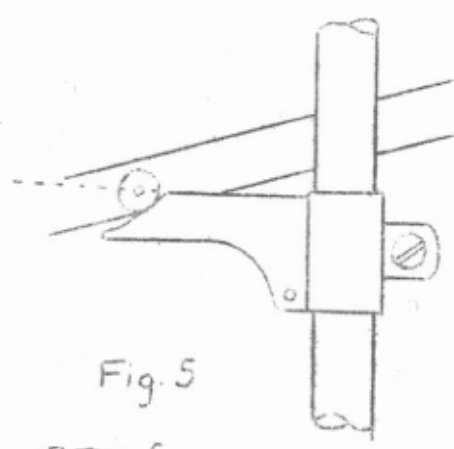

Fig. 5
- b. Release the gravity arm and lower gently onto the pallet. Check by eye that if top of pallet is continued to left, it passes through the centre of the roller, Fig. 5. To align the roller correctly, first slacken the top chop trunnion locking screw. If bearing of the roller lies below the top line of pallet, lever the top chop to the left. If roller bearing lies above, lever top chop to the right. When correctly adjusted retighten top chop trunnion locking screw.